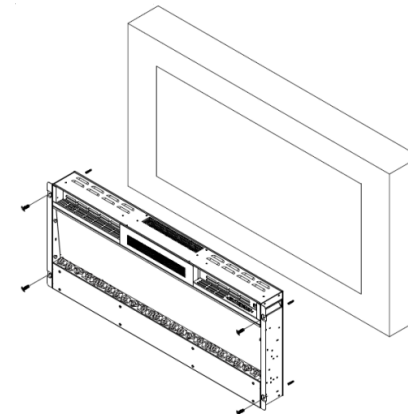

Fig.3
- For optimum viewing, mark the left and right screws (fixing positions on the wall in accordance with the appliance's holes; See Fig.3
- Place the front glass surround over the front of the fire aligning the slots in the bracket at each side of the glass panel with the lugs on the sides of the fire; See Fig.3